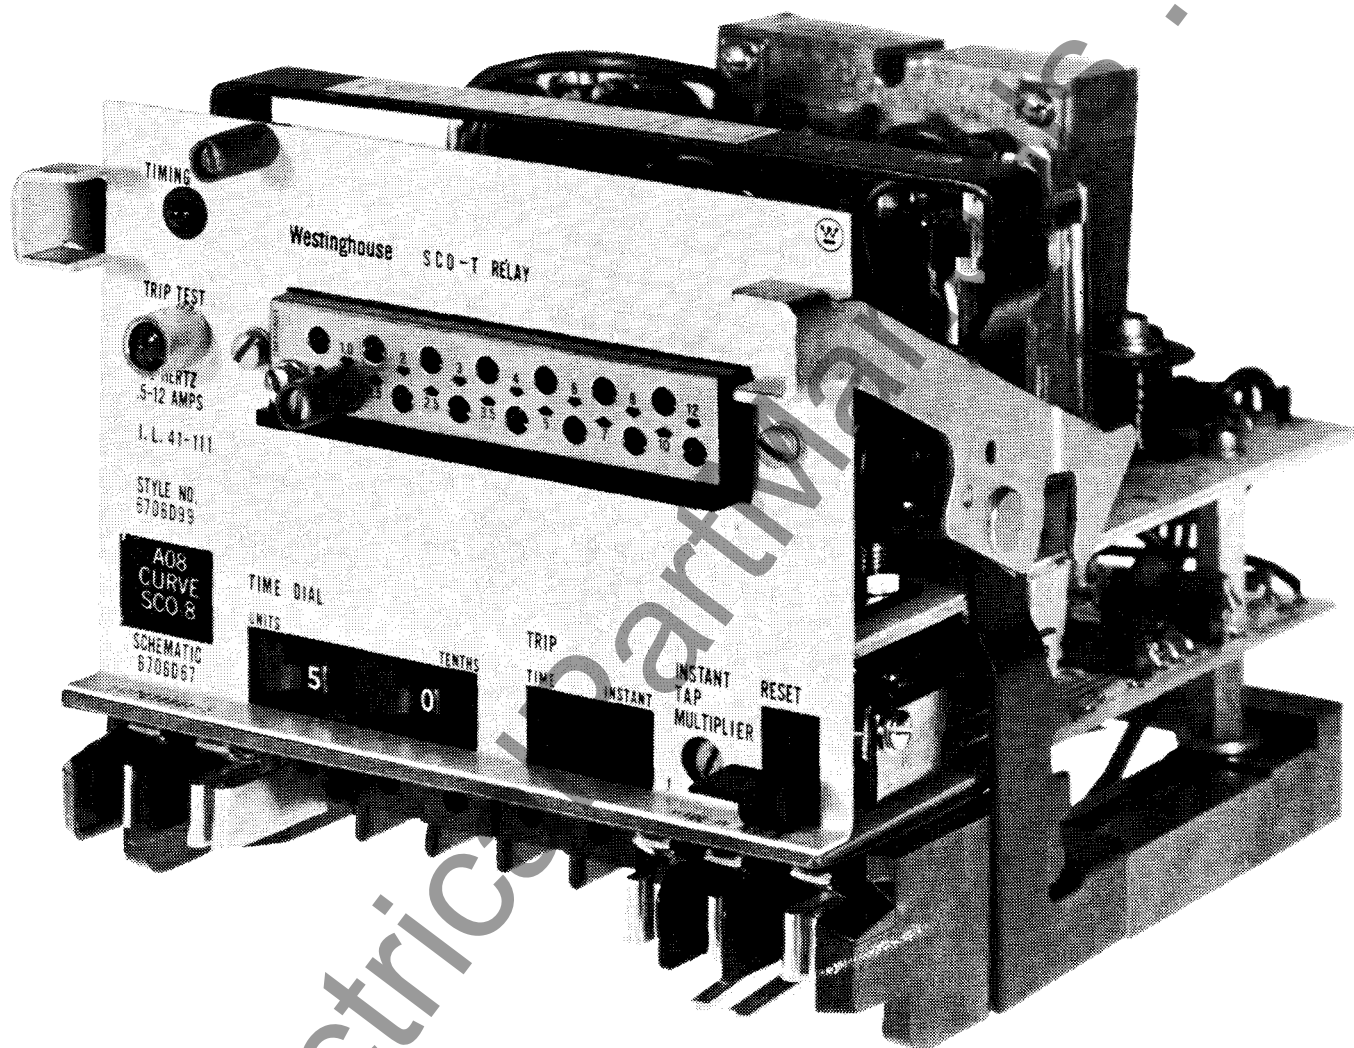

Fig. 2. Type SCO-T Relay—Front Right Side View
- The time curve calibration points for the various types of relays are shown in Table II. Apply current per Table II for 10X or 20X pickup and adjust multi-turn trimpot R6 for the appropriate operating time $\pm 5\%$. Clockwise rotation of trimpot R6 increases the trip time and counterclockwise rotation decreases it. See Figure 2, front photograph, and Figure 6, module component location, for exact location of trimpot R6. Apply current per Table II for 2X pickup and check for appropriate operating time $\pm 10\%$. Adjust trimpot R5 if necessary to get this operating time to fall within these limits.